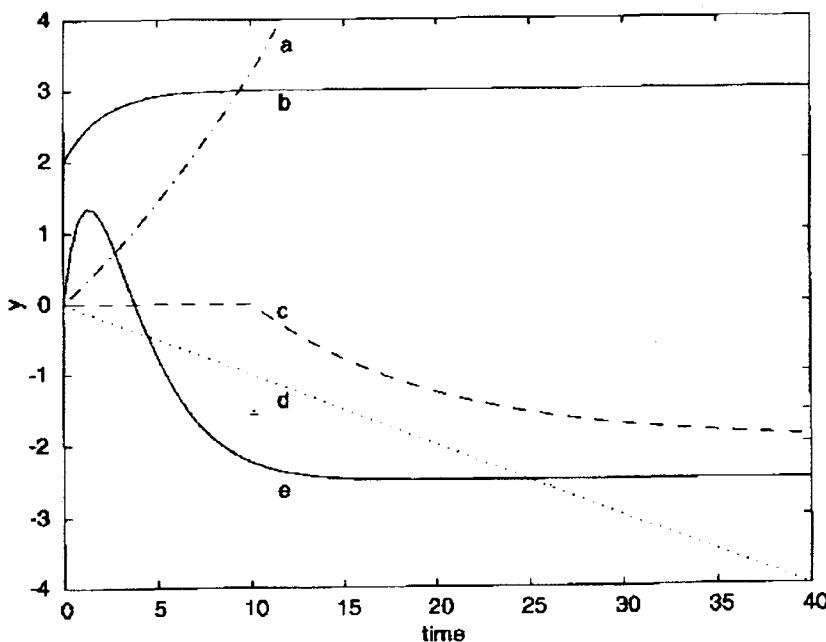

Figure Q.2. [c] : Responses to a unit step input
- [c] Match the transfer functions with the responses to a unit step input, shown in Figure Q.2. [c].